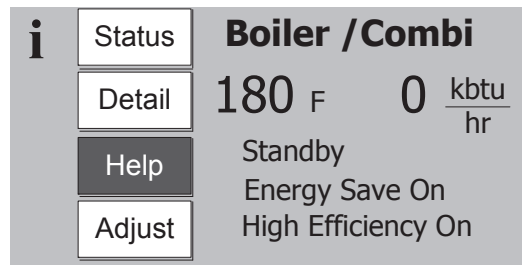

Figure 12.2c: Home Screen with Active Fault
13. If there is a problem that appears before the first try for ignition, or if the boiler fails to light after six tries for ignition, the blinking "HELP" button is highlighted on the Home screen (Figure 12.2c). Touching this "HELP" button will take the user to the Diagnostics menu where the cause of the problem can usually be found by pressing the flashing button on each successive screen.